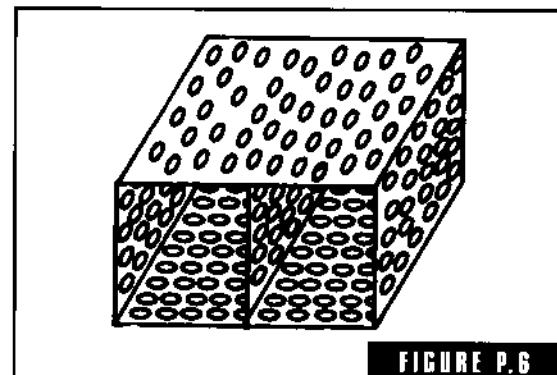

FIGURE P.6
**perforated chaplets** Tin coated sheet steel chaplets made from perforated stock (Fig. P-6).